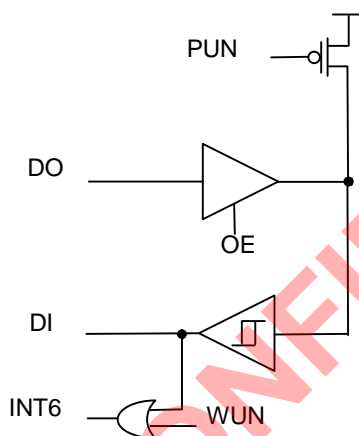

Figure 11.1 Ports I/O block diagram
A8105 has 24 Digital I/O Pins. There are separated to 3 Ports and each of the Port pin can be defined as general-purpose I/O (GPIO) or peripheral I/O signals connected to the timers, UART, I2C and SPI functions. Thus, each pin can also be used to wake A8105 up from sleep mode. User can select each pin function by setting register. Each port has itself port register like P0 (0x80), P1 (0x90) and P3 (0xB0) that are both byte addressable and bit addressable. When reading, the logic levels of the Port's input pins are returned. Each port has three registers to setting Pull-up (PU), Output-enable (OE) and Wake-up enable (WUE). As shown the bellow block diagram, Fig. 11.1. Unused I/O pins should have a defined level and not be left floating. One way to do this is to leave the pin unconnected and configure the pin as a general-purpose I/O input with pull-up resistor.